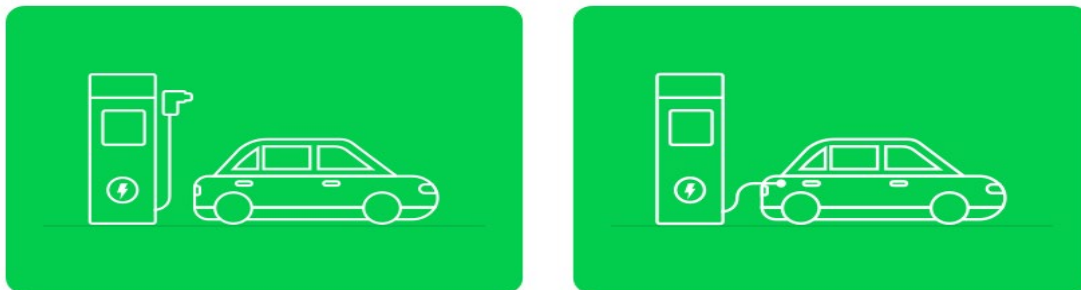

Figure 39. The state of not inserting the gun      Figure 40. The state of not inserting the gun
**6.3.1 Take out the plug gun, insert the charging gun into the charging port of the vehicle, and the screen icon changes at this time (as shown in Figure 39 and Figure 40)**